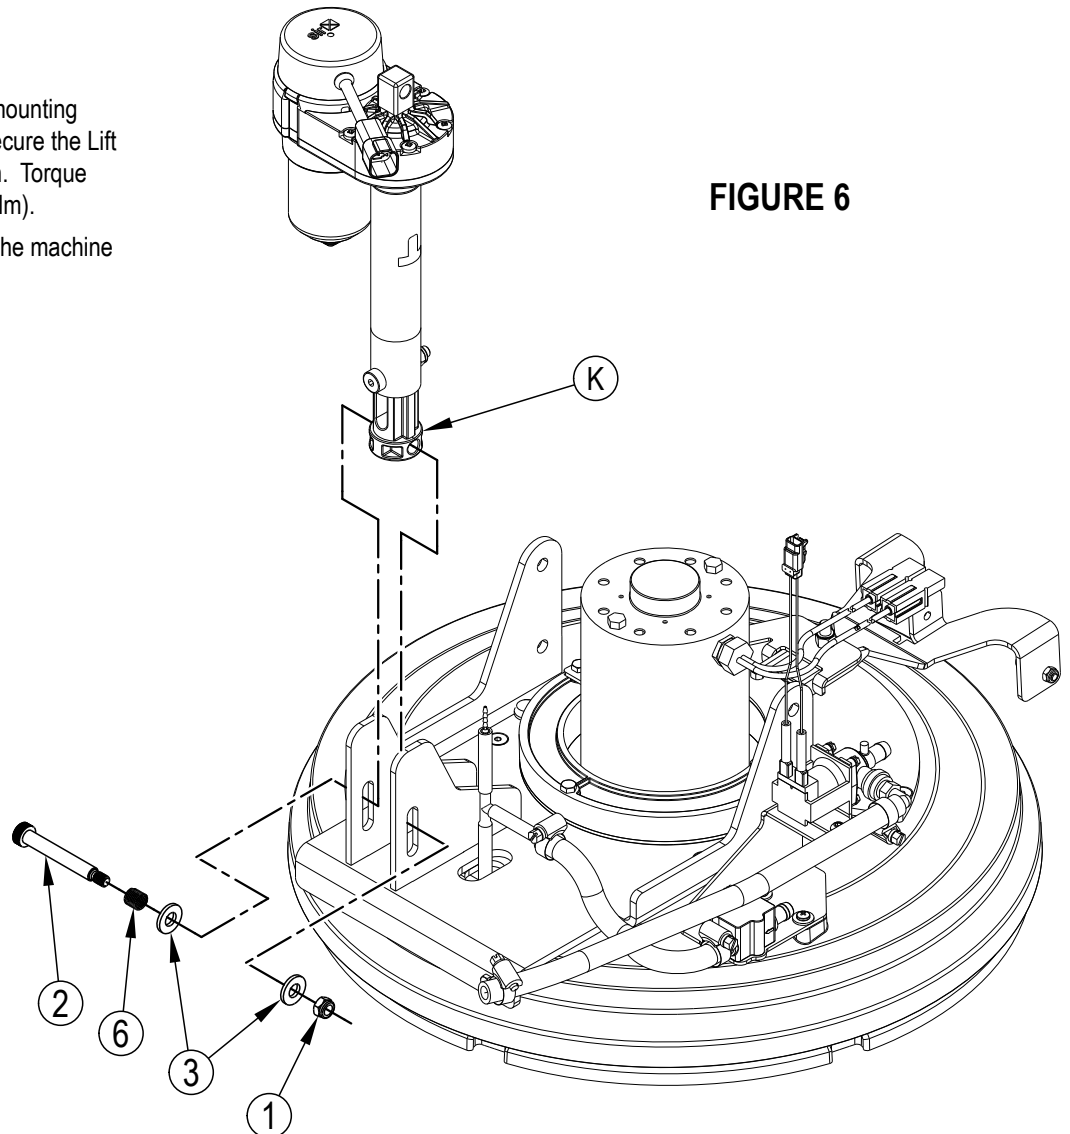

FIGURE 6
9. **SEE FIGURE 6.** Install the new mounting hardware (items 1, 2, 3 & 6) to secure the Lift Actuator (K) to the deck as shown. Torque the hardware to 22 ft/lbs. (29.82 Nm).